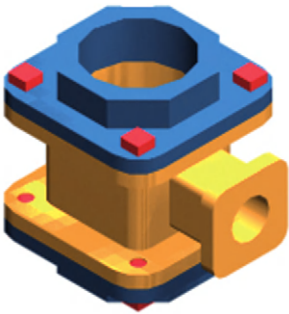

Fig. 17.9 **Second example UCS**
Second example – UCS (Fig. 17.9)
13. In the UCS ***WORLD*** move the parts into their correct positions relative to each other and with **Union** form a union of the two filleted rectangular extrusions and the main body. Then with **Subtract**, subtract the cylinder from the whole (Fig. 17.9).